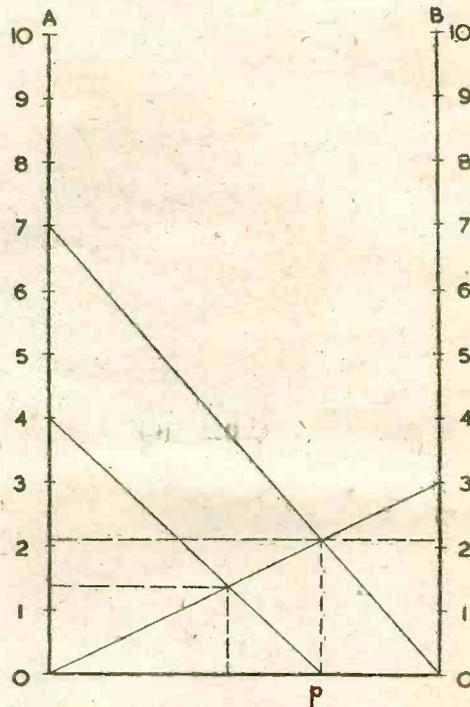

Fig. 2.—An example of its use.
From this it follows as shown in Fig. 2 that by drawing two parallel scales at any convenient distance apart we have a very simple means of finding the resultant values of two or more resistances in parallel. The two arbitrary scales A and B can be numbered from 0 to 10, preferably on graph paper.
- (1) making three resistances in parallel, it is only necessary to draw a line from 420 ohms on scale A to P in Fig. 2
- (2) then the intersection of this line with the line connecting 300 ohms on scale B to 0 on scale A gives us 140 ohms, which is equivalent to evaluating the following formula: